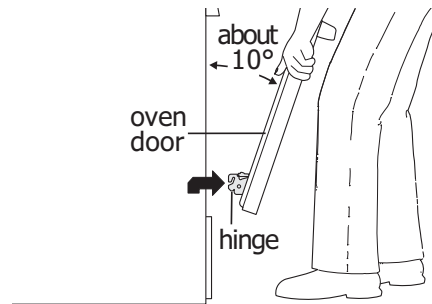

Figure 45: Holding door for removal
3. Firmly grasp both sides of oven door along the door sides. Do not use the oven door handle (Figure 45).
4. Close the door to within 10° of closing (Figure 45).
5. Lift the oven door hinge arms over the roller pins located on each side of the oven frame (Figure 45).
1. Firmly grasp both sides of oven door along the door sides. Do not use the oven door handle (Figure 45).
2. Holding the oven door at the same angle as the removal position, seat the hook of the hinge arm over the roller pins located on each side of the oven door frame (Figure 45 and Figure 46). The hook of the hinge arms must be fully seated onto the roller pins.